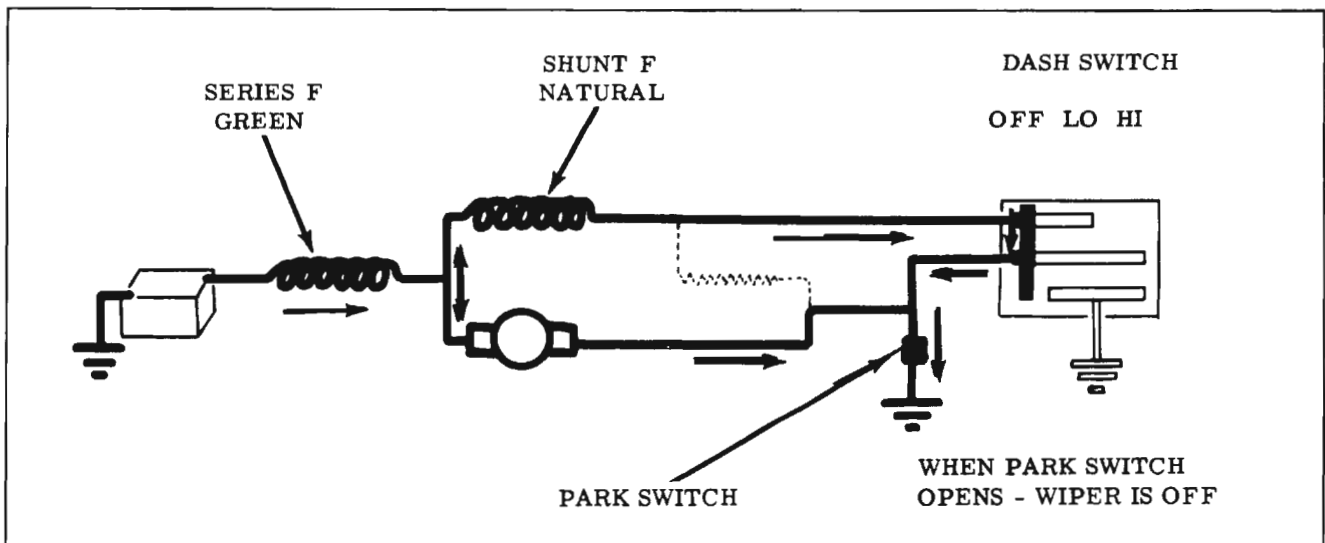

Fig. 14-158 Parking Cycle (Two Speed)
**PARKING CIRCUIT (Fig. 14-158)**